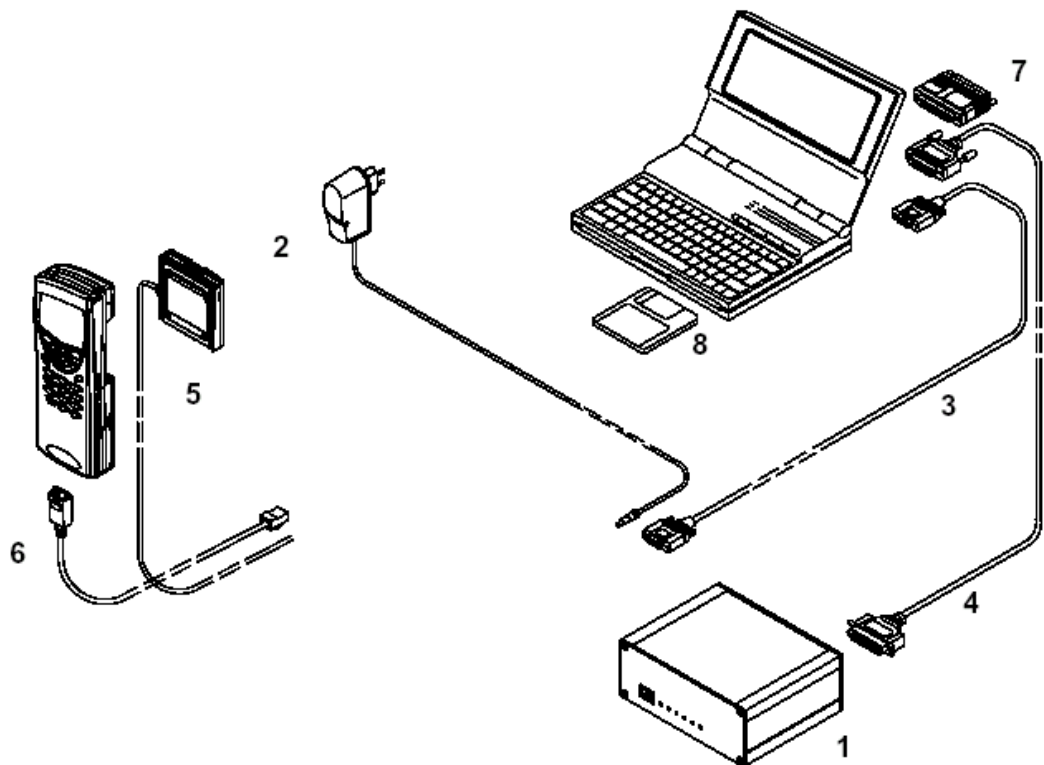

Figure 3. Flashing setup
2. Connect the box, cables and PC according to the drawing (see Figure 3)